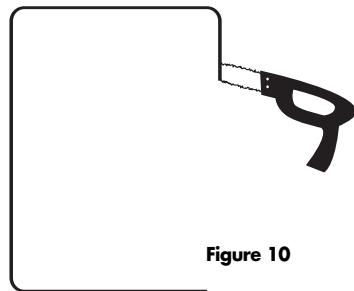

Figure 10
- Carefully cut the hole with the appropriate cutting tool for your wall or ceiling material. Start the hole by drilling a hole on the inside of the tracing (with the drill bit just inside the line). Use this hole to insert the saw or knife and begin cutting [Figure 10]. The holes for the Di 3.5R and Di4.5R must be cut very precisely as their flanges are only 3/8" (9.5 mm) wide. We recommend using hole saws to cut the holes for these models — 3 3/4" for the Di 3.5R and a 4 1/2" for the Di 4.5R.